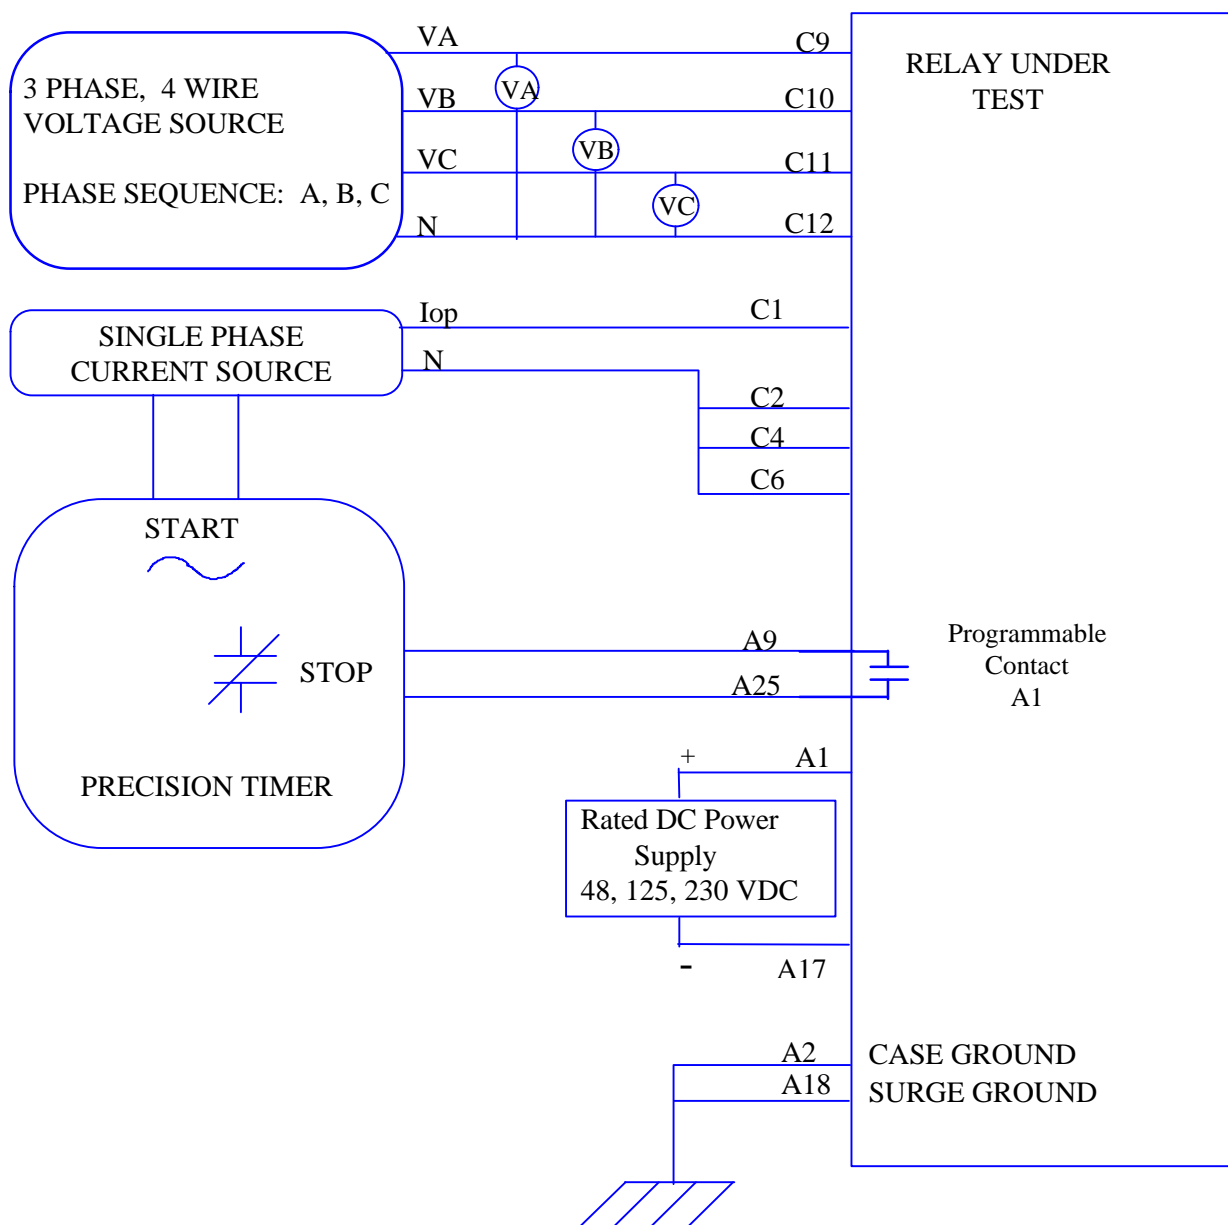

Figure 5-1. Ground Reach Timer Test Connections.
2. Connect the relay as shown in Figure 5-1.
1. Connect the relay as shown in Figure 5-1.